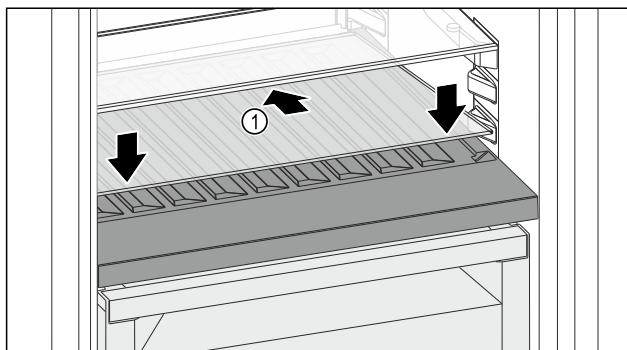

Fig. 120
- ▶ Place the glass shelf Fig. 120 (1) at an angle, sloping it downwards and backwards.
- ▶ Lower the glass shelf Fig. 120 (1) at the front.